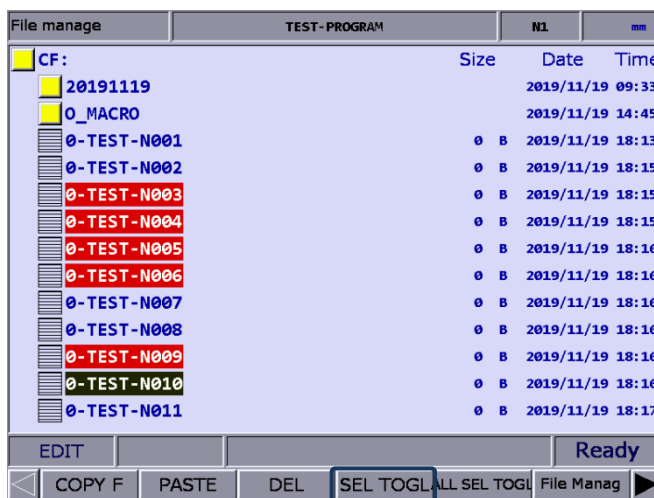

Figure 7.6.1
- (1) Set the system to EDIT mode.
- (2) Press **PRG** to switch to the PRG screen.
- (3) Enter the directory where you desire to select the files.
- (4) In the File manage screen, press **↑** and **↓** or **PAGE UP** and **PAGE DN** to move the cursor to the file to be selected. To select a file, press **SEL TOGL** (as shown in Figure 7.6.1). To cancel the selection, press **CANCEL**. To select all files, press **ALL SEL TOGL**. To cancel the selection of all files, press **CANCEL**.